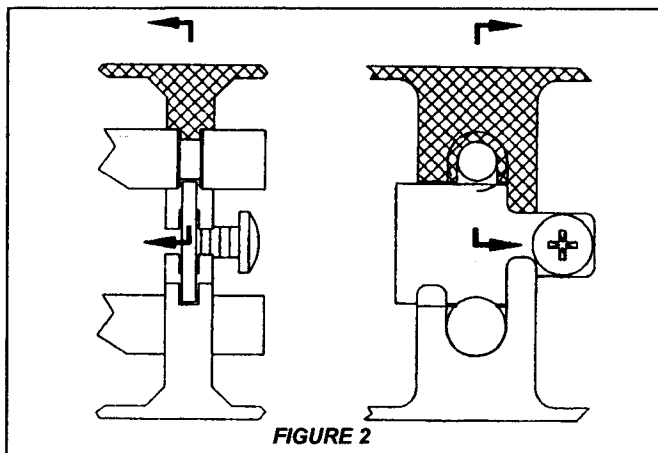

FIGURE 2
4. Place the cables in the correct slots in the control, put the cable clamp lock plate (9) in position, turn the screw(10) fully home to lock the plate in position. **CHECK** that the plate is locked. See figure 2.